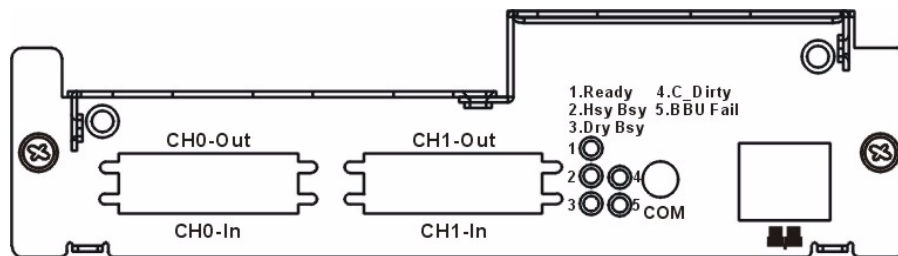

Fig. 4.2 Controller Faceplate
- **Firmware (FW):** The RAID controllers in the subsystems come with pre-installed FW. The FW can be accessed using either the LCD keypad panel or a PC running terminal software through the RS-232C (audio jack) serial port. Device status information can be obtained from the FW.
- **LEDs:** Device-status-indicating LEDs are placed on all of the subsystems' active components. These LEDs inform you of the integrity of a given component or a given link. You should become familiar with the different LEDs on the subsystem and be aware of their functions. (See *Figure 4.2*)
The rear-facing faceplate of the RAID controller module is shown in *Figure 4.2*. The rear-facing faceplates on the two models look identical. The LEDs are numbered from 1 to 5. There are two more LEDs on the Ethernet port. The definitions are shown in *Table 4.3* below.